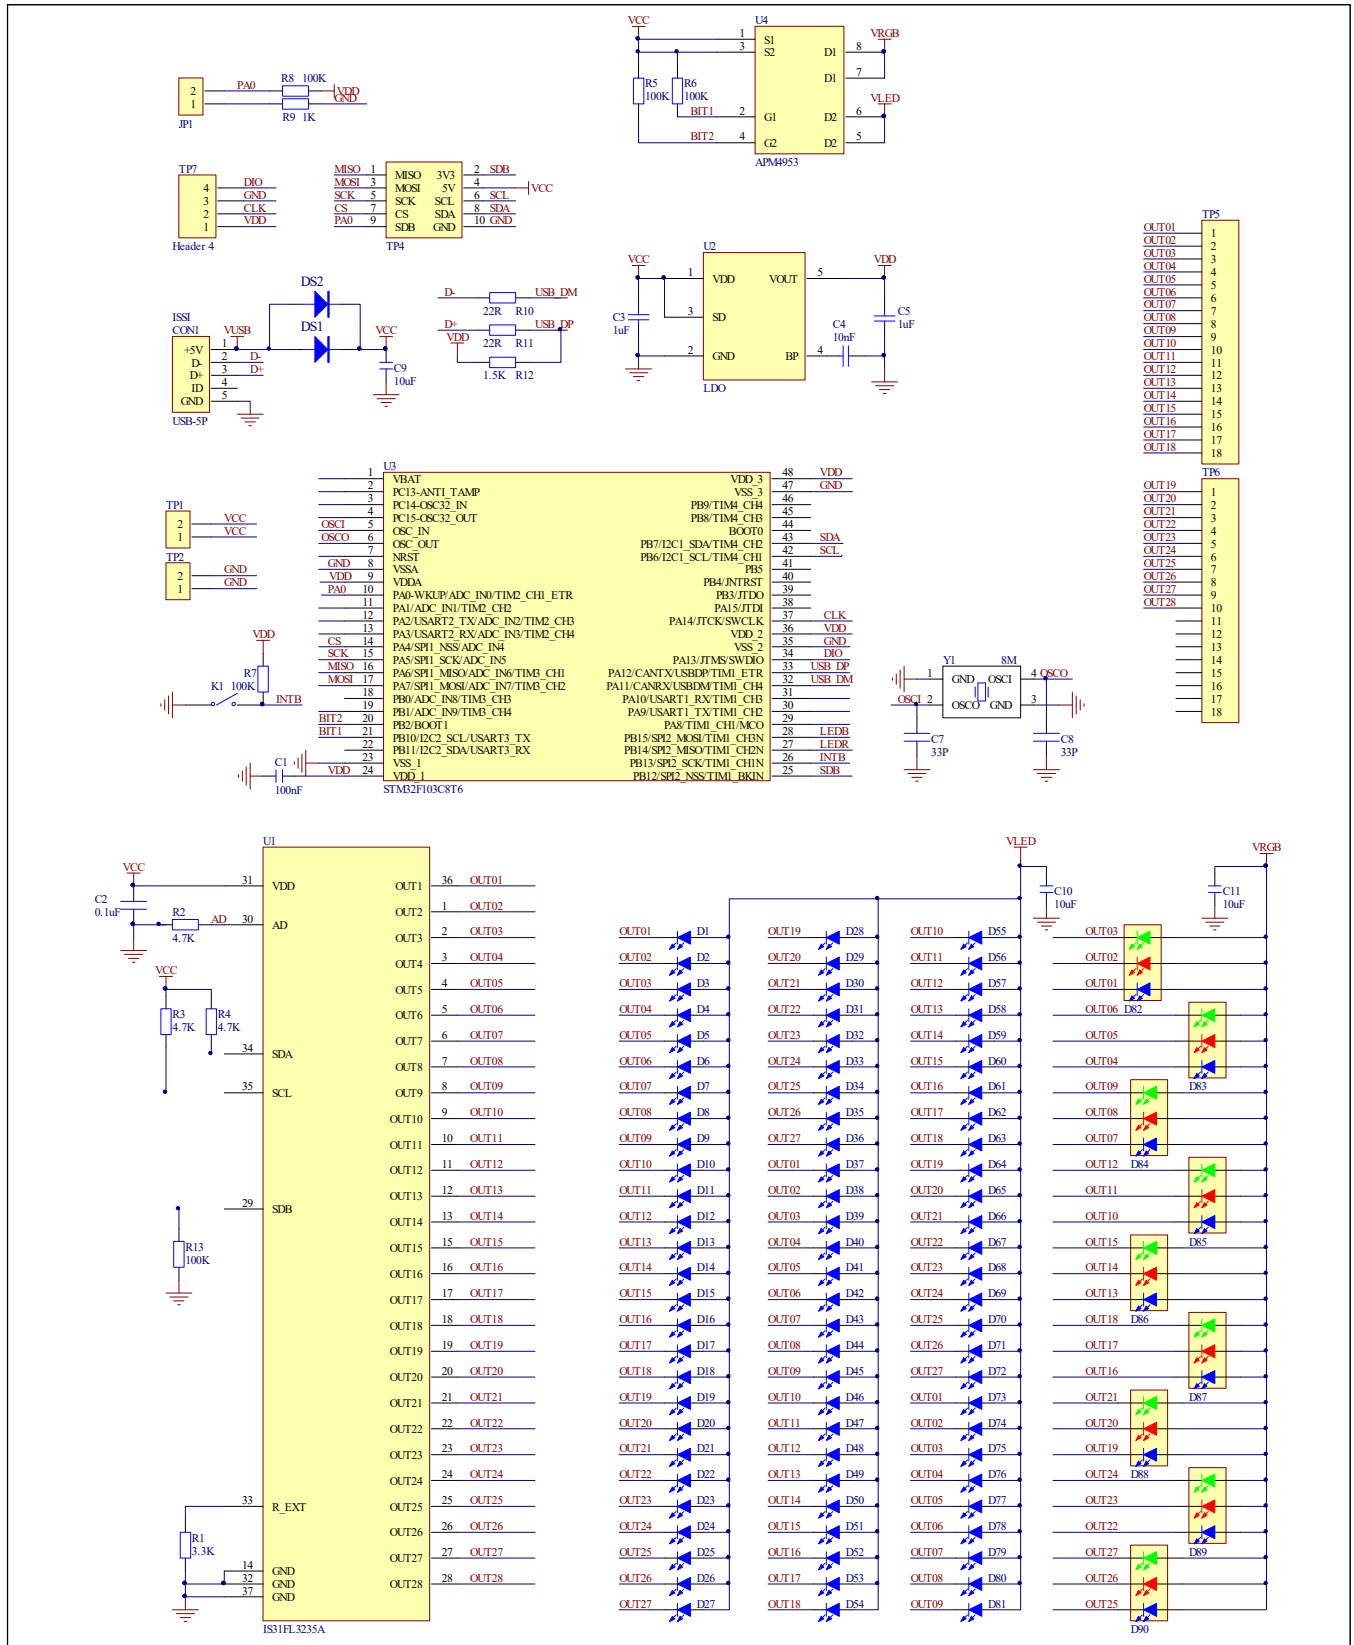

Figure 3: IS32FL3235A Application Schematic
*Bill of Materials, refer to Figure 3 above.*